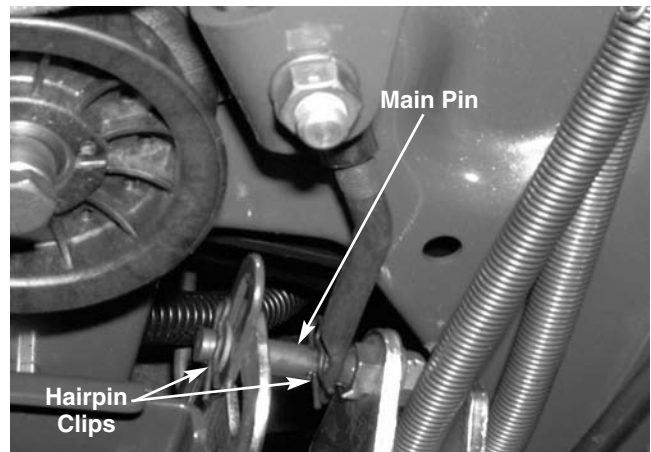

FIGURE 3.
- 2). Remove both hairpin clips from the main pin on the speed control assembly. See figure 3.